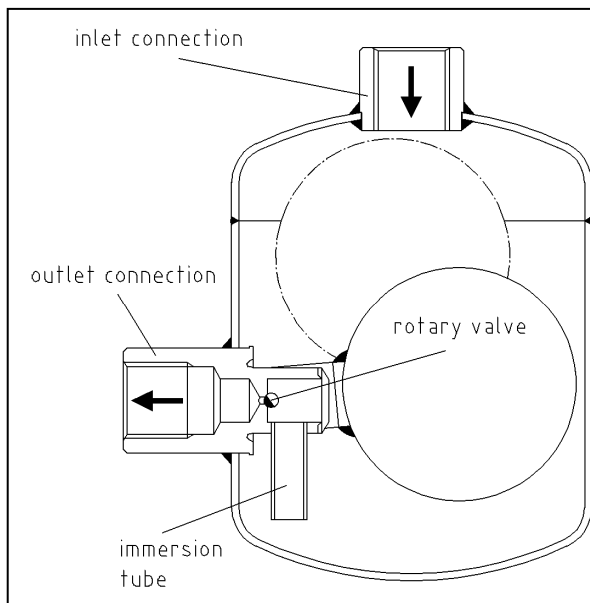

Fig. 1: Condensate trap type 1064
- + Fitting position according to Fig. 1